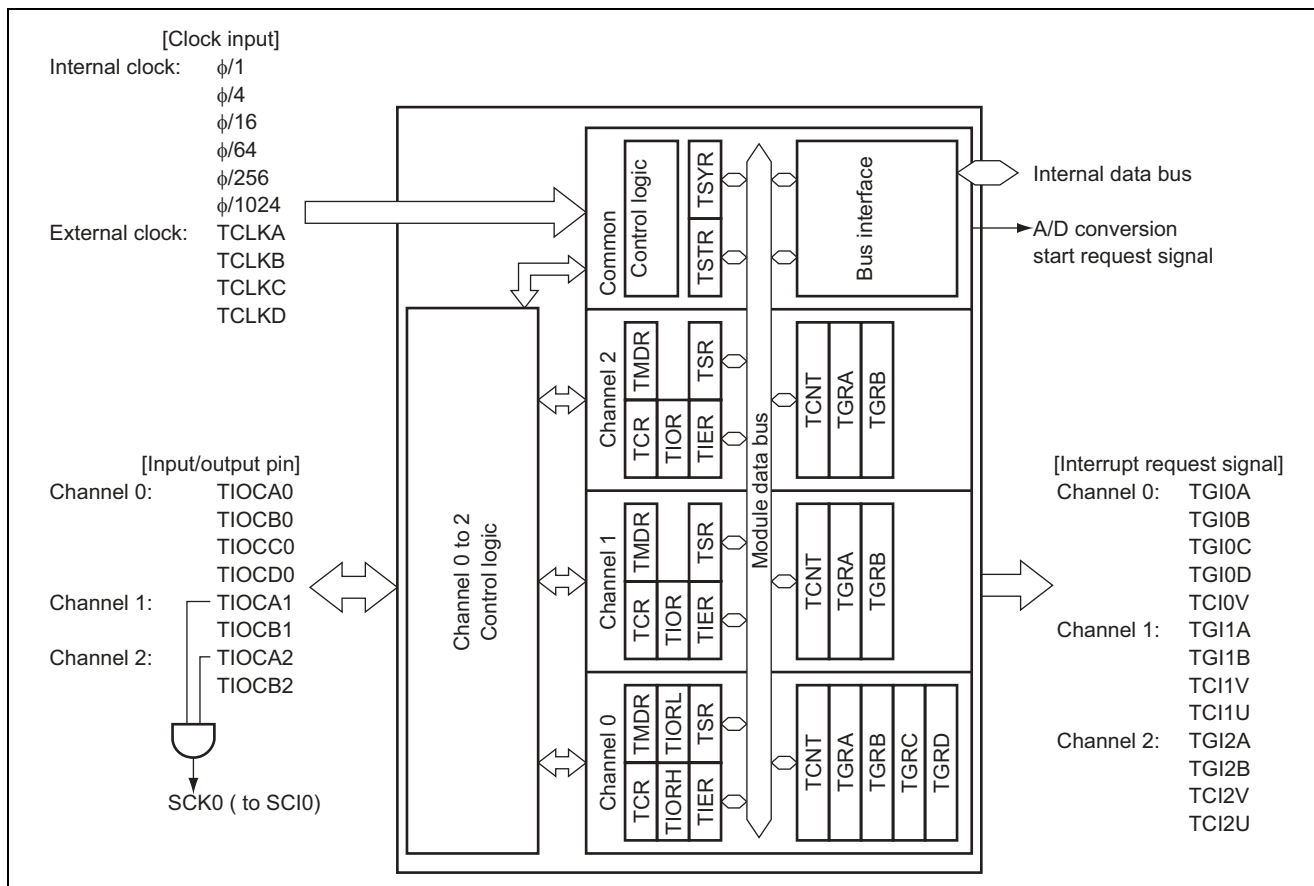

Figure 2 Block Diagram of TPU
- Figure 2 shows a block diagram of the 16-bit timer pulse unit (TPU), and the following is the description for the block diagram: